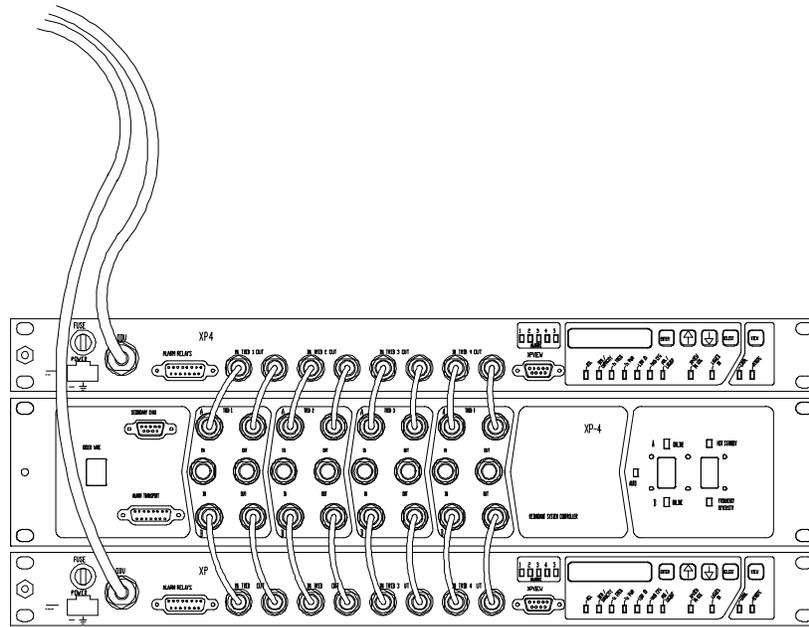

Figure 7-7. Unbalanced 2x/4x Protected Configuration.
- Connect the traffic cables (item 5 of Redundant System Controller Installation Kit) from each tributary of each IDU to the same tributary port of the protection shelf. No cables should be crossed and the middle row of connectors on the protection shelf should be unconnected. Refer to Figures 7-7 and 7-8.